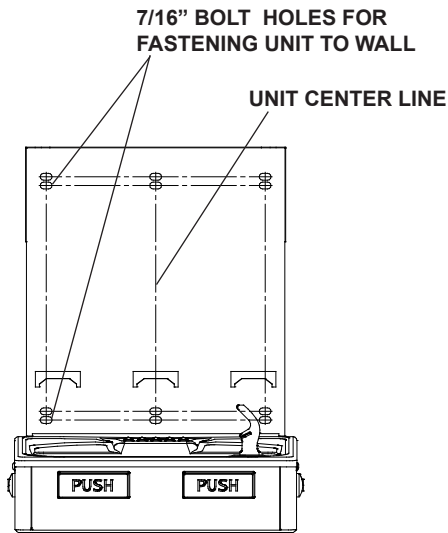

Fig. 6
- 2) **Remove wall mounting plate from Bottle Filler.** Place wall plate against wall on top of basin. Center the wall plate side to side with the basin. Mark the six (6) mounting holes with a pencil (See Fig. 6).
- 4) **Install wall mounting plate to wall** using six (6) 7/16" oround mounting holes (mounting bolts not included) (See Fig. 6). Use appropriate fasteners for your wall type.